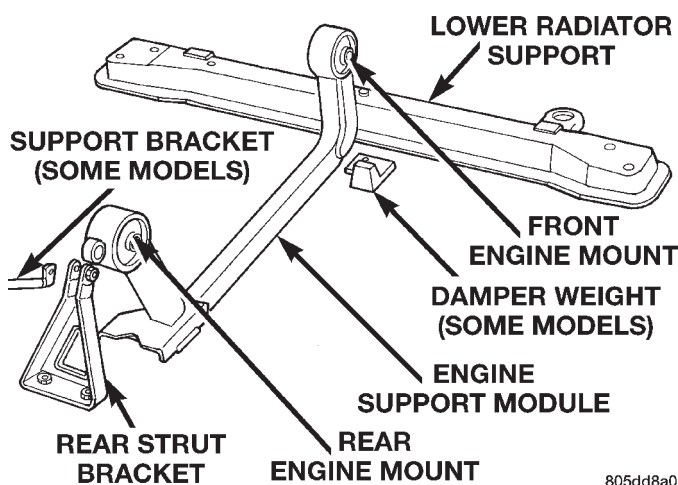
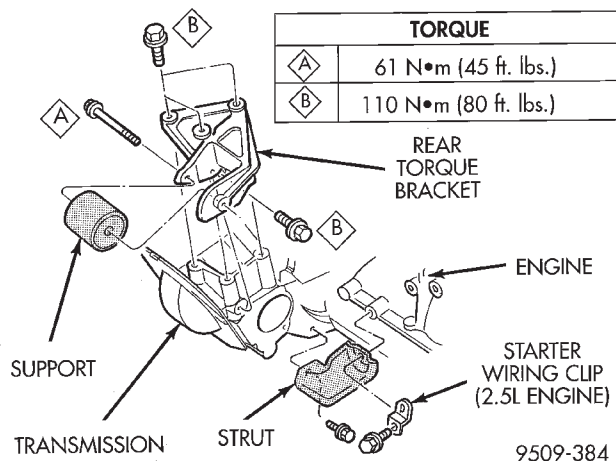

Fig. 17 Engine Support Module
Fig. 18 Engine Mounting—Rear 2.4 and 2.5L
- (1) Install thru bolt at front mount. Do not tighten at this time.
- (2) Install lower radiator support.
- (3) Install attaching bolts from support module to lower radiator support.
- (4) Install upper bolt at rear support strut bracket.
- (5) Install thru bolt at rear mount see (Fig. 17) or (Fig. 18) tighten to 61 N·m (45 ft. lbs.).